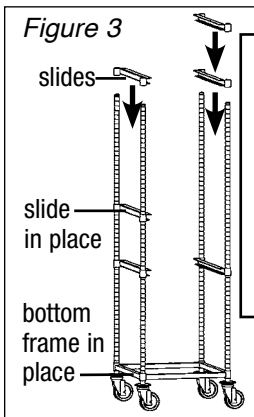

Figure 3
- B. After split sleeves are attached to both posts, slide the tote slide down over posts (see *Figure 3*) and secure snugly onto split sleeves.